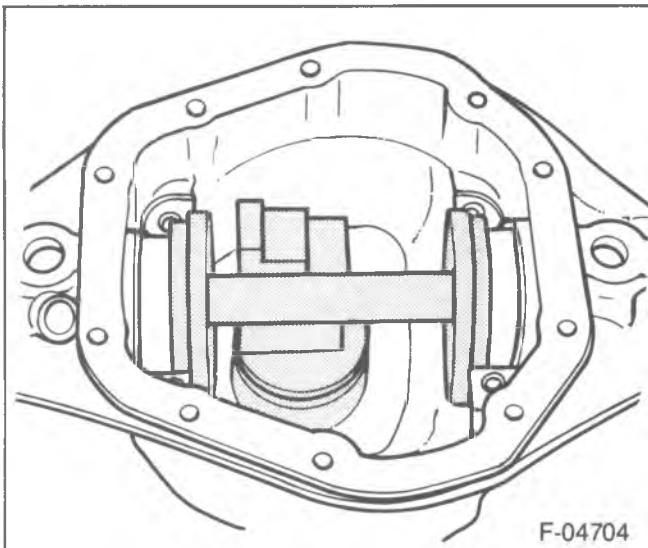

Figure 106—Pinion Height Block
5. Install D-116-1 onto D-120 and against the arbor (figure 106).